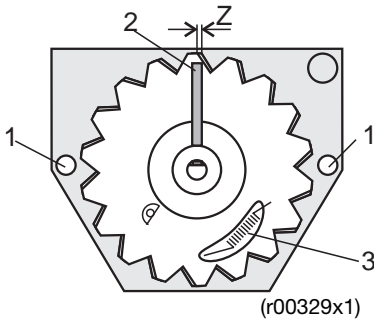

Figure 15: Position sensor SP 1
- set the stop pin to the center position, as shown in Figure 15